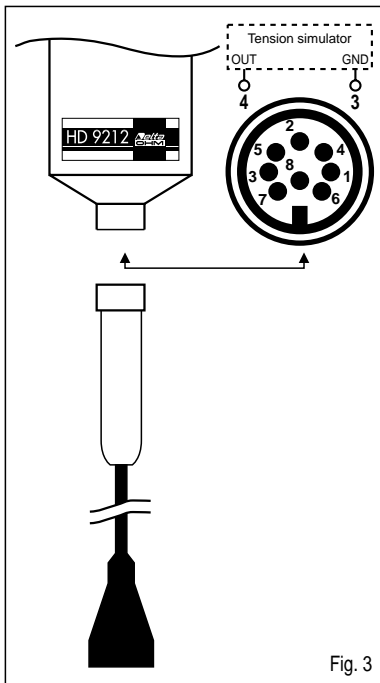

Fig. 3
1. Connect a voltage simulator to the input of the instrument (Fig. 3); simulate a value of 0.0 mV, that is the first calibration point.